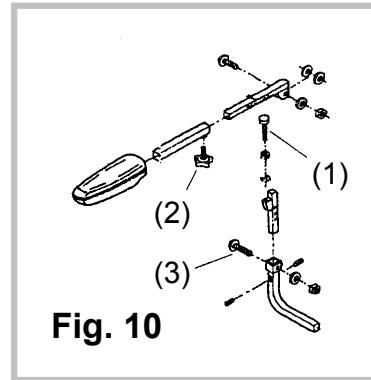

Fig. 10
### ARM ADJUSTMENTS (Fig.10) STREAMER (888-WB/WAB/WSB) WIZZ (888-WNL)
Beneath each of the arm pads there is a hand knob [Fig.10 (2)] used to adjust the length of the arm pad and secure the arm pad to the arm rest assembly. Remove the hand knob completely and slide off the arm pad. You can now exchange the joystick controller from one side to the other.